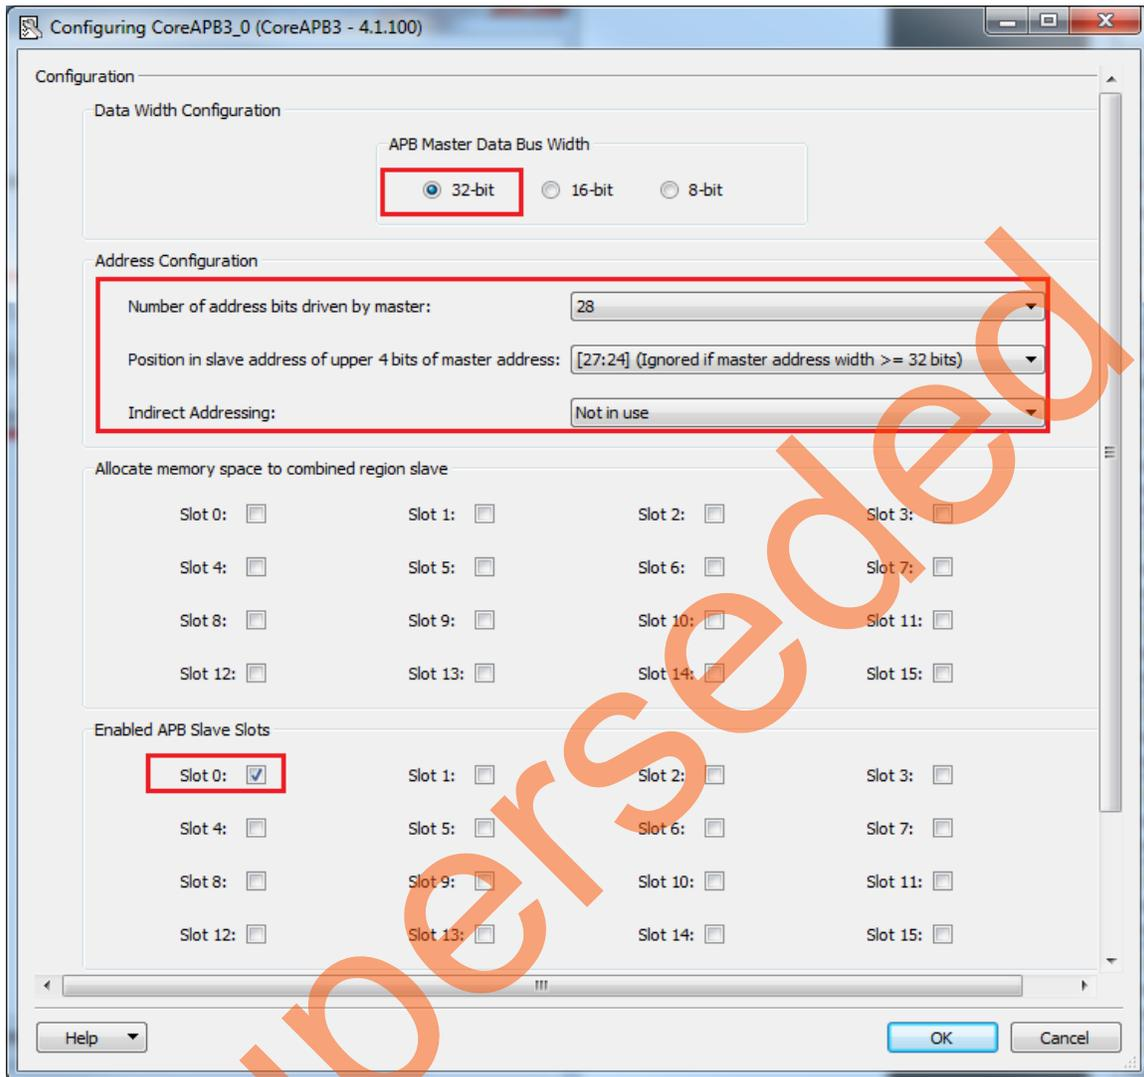

Figure 20 • Configuring CoreAPB3_0
5. Double-click **CoreAPB3** to configure it. **Figure 20** shows the **Configuring CoreAPB3_0** window.